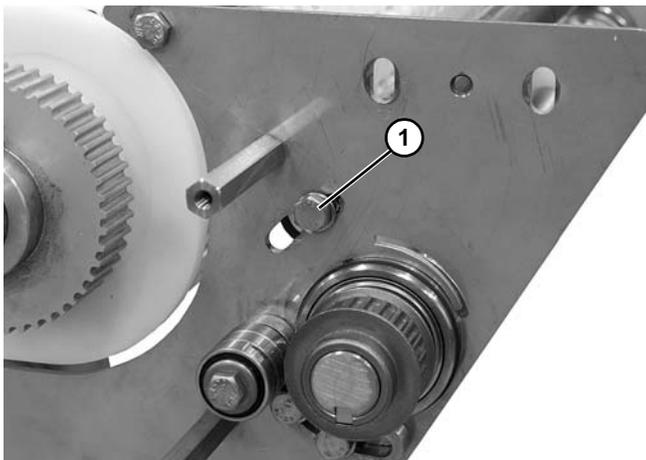

Figure 63
11. Remove hex head screw (**Figure 63, item 1**) on both sides of the power transfer and remove idler assembly.